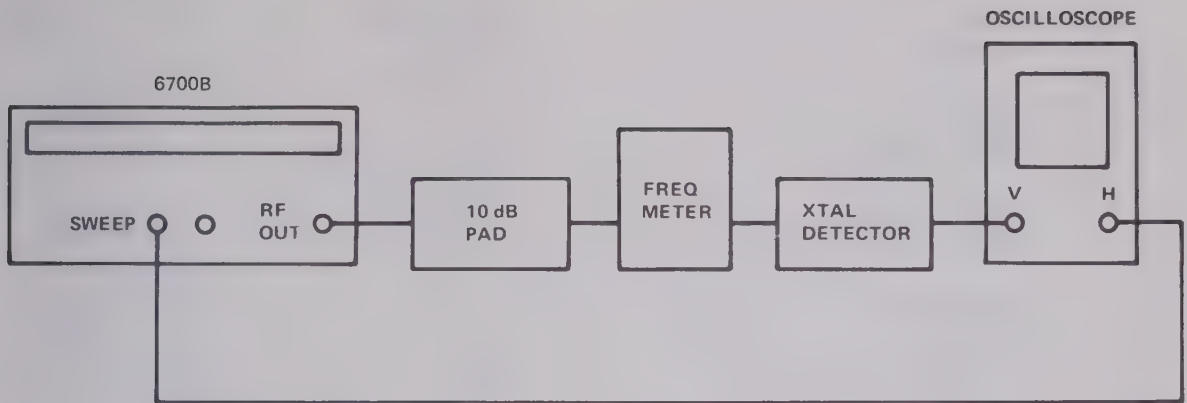

Fig. 14 Primary loop calibration test set-up
30. (1) Connect equipment as shown in Fig. 14.
- (a) With the equipment still connected as shown in Fig. 14, set the M1 indicator and the frequency meter to the out-of-specification frequency.
- (7) Any adjustments made in steps (5) to (7) may affect the frequencies above the corrected one. Therefore, it may be necessary to repeat steps (4) to (6).
- (1) Set up equipment as shown in Fig. 14. Turn off main power and remove the r.f. unit from the mainframe.
- (2) Remove the top cover from the r.f. unit and lift up the tuning and bias supply assembly A2 p.c. board.
- (3) Using an extender cable, connect the r.f. unit to the mainframe and ensure that the mainframe and r.f. unit controls are set as specified in para.30 step (2).